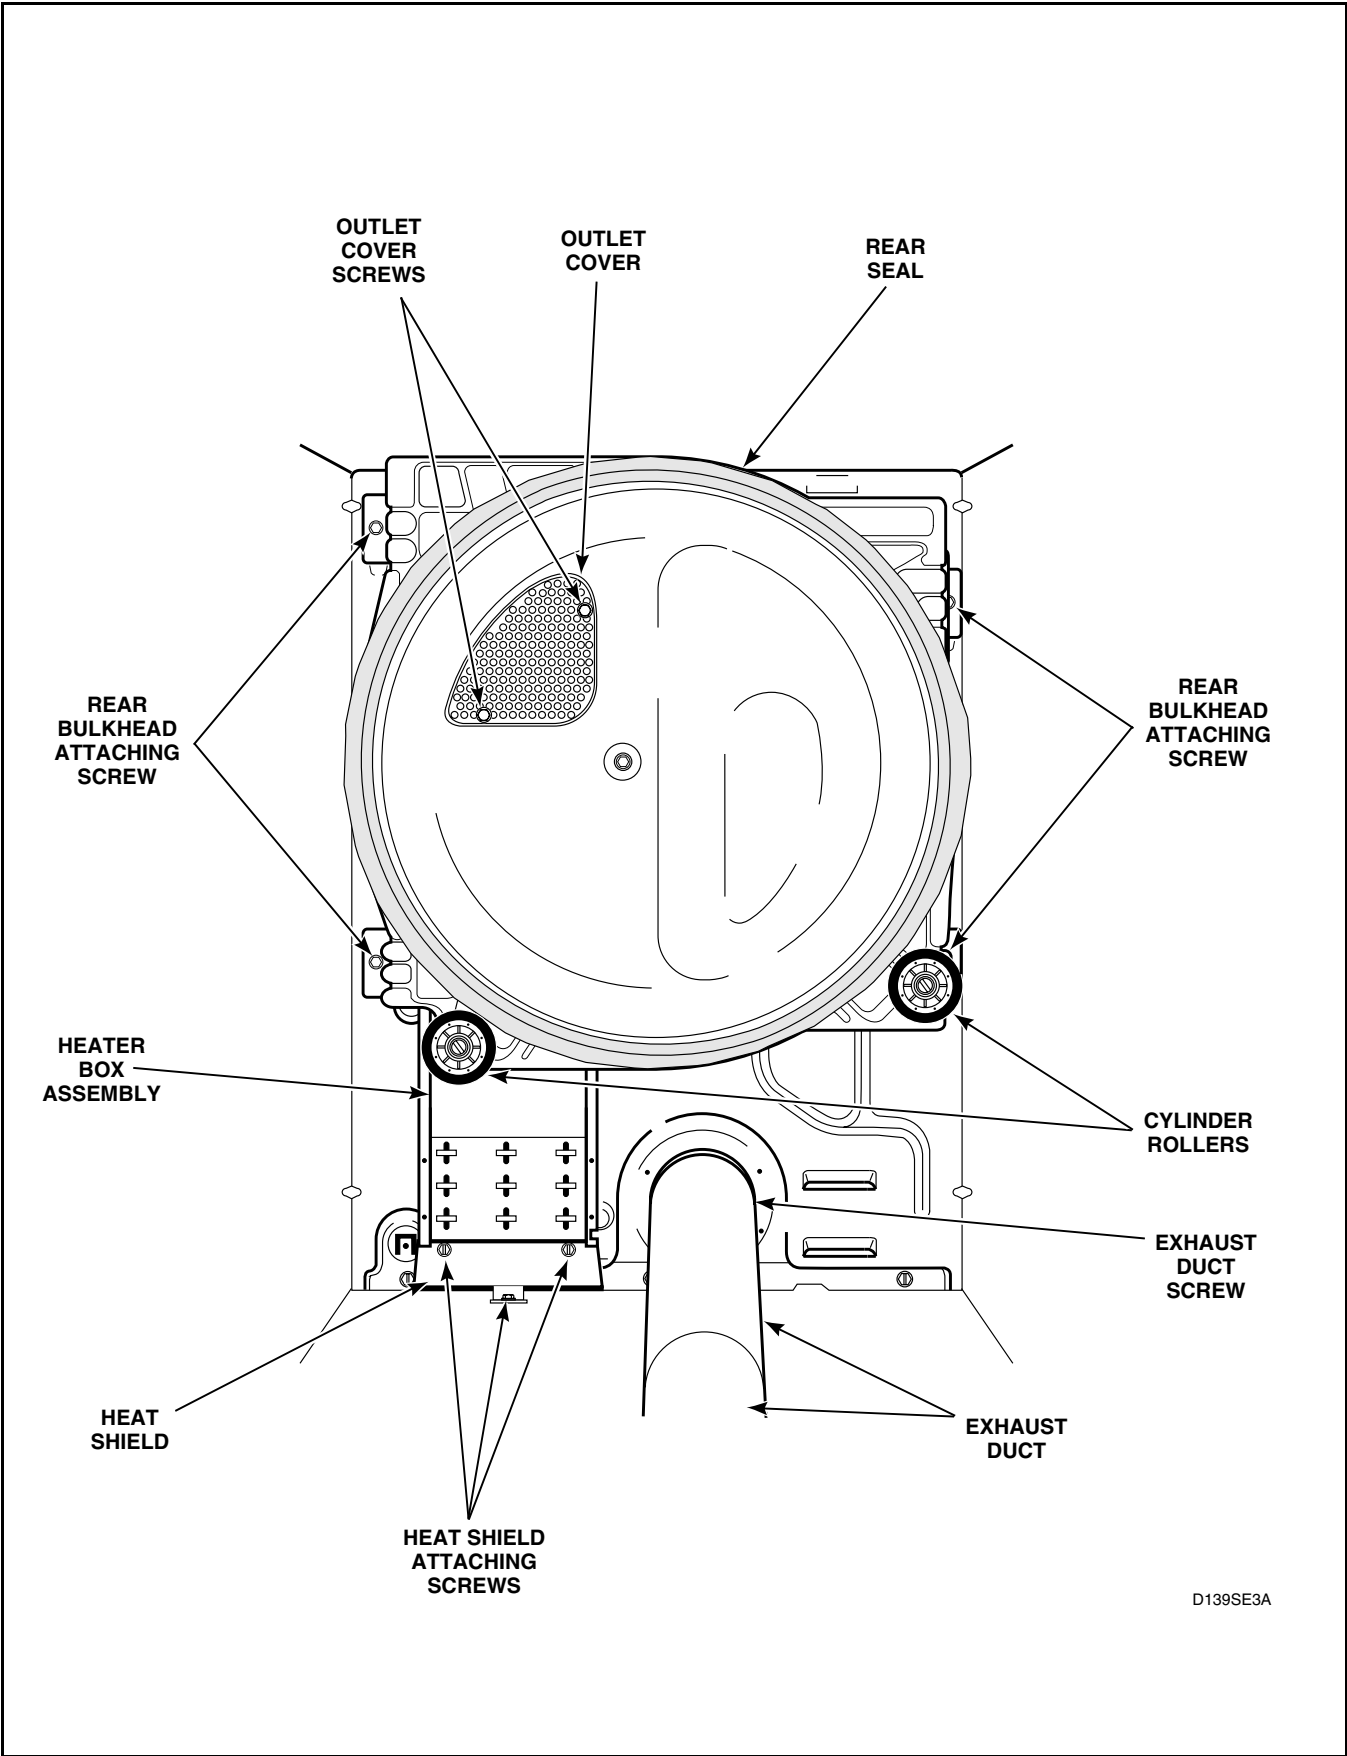

Figure 54
- m. Pull rear cylinder seal from flanged edge of bulkhead. Refer to *Figure 54*.
Open door and remove two screws holding outlet cover to rear bulkhead. Refer to *Figure 54*.
- k. Remove screw holding heat shield to dryer base. Refer to *Figure 54*.
- l. While supporting bulkhead, remove the four screws holding rear bulkhead to dryer cabinet, then lift complete assembly out of dryer. Refer to *Figure 54*.
- m. Remove two screws holding heat shield to heater box. Refer to *Figure 54*.